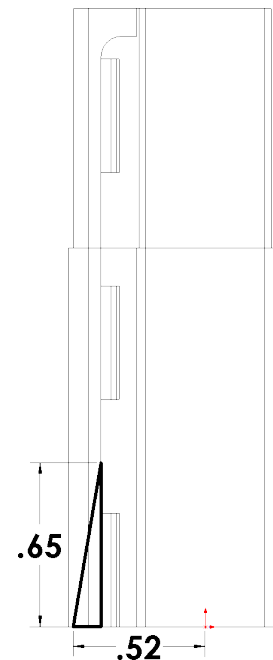

Fig. 64
Results shown in **Fig. 64**.
Step 10. Click **Smart Dimension**  (S) on the Sketch toolbar.
Step 11. Add dimensions, **Fig. 64**.